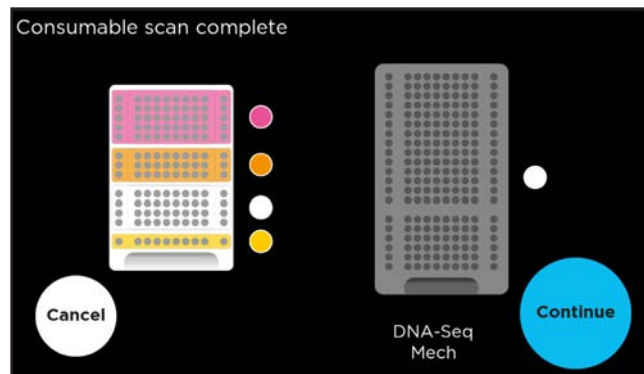

Figure 11. The consumable barcodes are scanned by the MagicPrep instrument.
5. Once the door is closed, the reagent cartridge and sample deck barcodes are scanned to ensure all consumable components are present and determine the protocol to run (Figure 11).